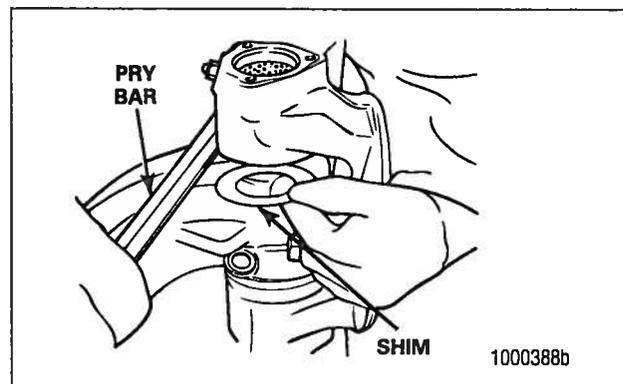

Figure 4
- B. Insert the original shim pack. Figure 4.